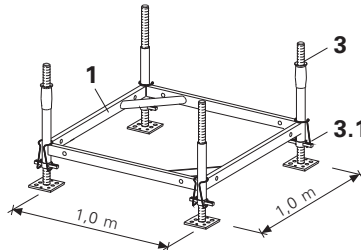

Fig. 2
1. Insert four Base Spindles TR 38-70/50 (3) into the Base-Head Frame ST 100 (1). (Fig. 2)